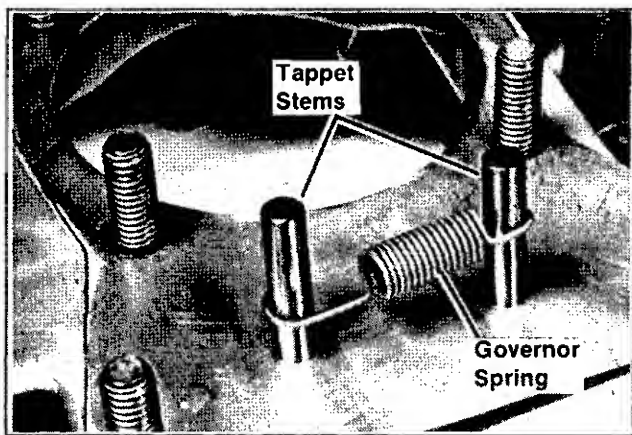

Figure 8-10. Use Governor Spring to Hold Tappets (#2 Side)
1. Lubricate the tappet stems and insert the tappets into both crankcase halves. To keep the tappets in #2 side from falling into the case when the case halves are assembled, secure tappet stems with tape or governor spring as shown in Figure 8-10.